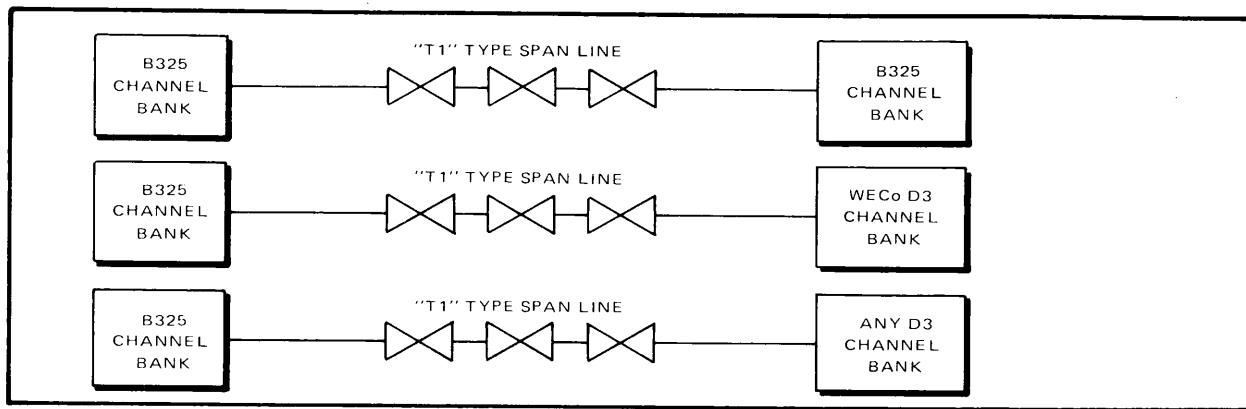

Fig. 1—Basic T-1 Span Line Interfaces
2.01 See Fig. 1. The B325 terminal interfaces with any T-1 repeatered span line. The bipolar output of the B325 is a standard DSX-1 format signal. The B325 operates, end-to-end, with any D2/D3 channel bank.